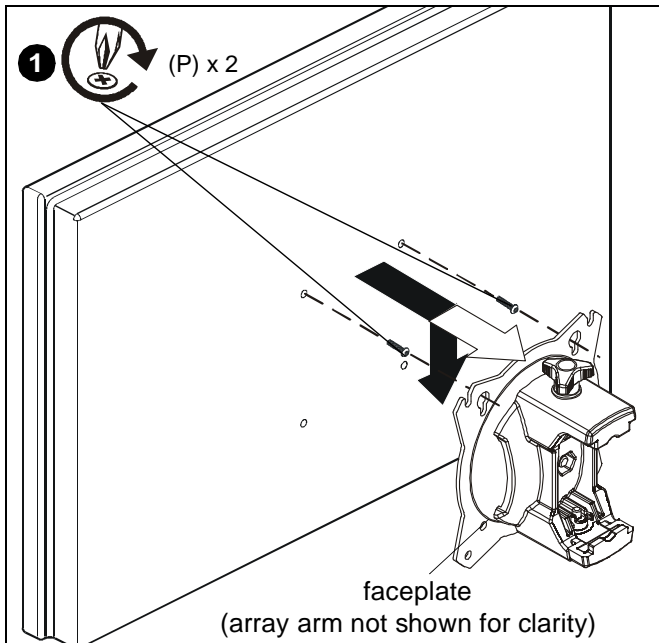

Figure 14
- Using Phillips screwdriver, carefully install two M4 x 12mm Phillips pan machine screws (P) into the *upper* mounting holes on the display. Thread screws completely into display, then back out 3 complete turns. (See Figure 14)
- Pick up and align display so that screws (P) (installed on the back of the display in the previous step) fit into the mounting holes on the faceplate. Lower the display firmly into place. (See Figure 14)